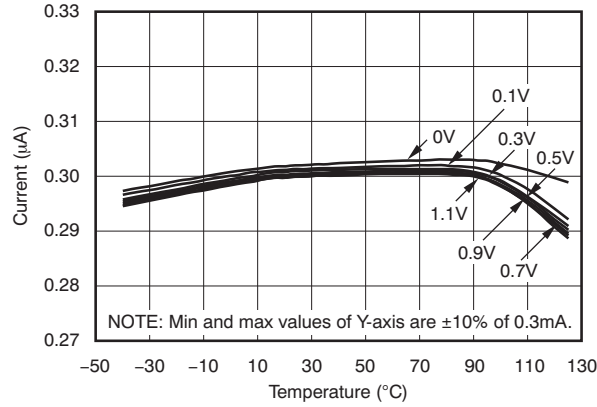

Figure 23.
- (1) Toggling WDI for a period less than t_{WDT} negatively affects I_{VCC} .
- (2) These specifications are beyond the recommended V_{VCC} range, and only define $\overline{\text{RESETn}}$ or RESETn output performance during VCC ramp up.
- (3) The lowest supply voltage (V_{VCC}) at which $\overline{\text{RESETn}}$ or RESETn becomes active; $t_{\text{RISE}}(\text{VCC}) \geq 15\mu\text{s/V}$.
- (4) CTn (where $n = 1, 2, 3$, or 4) are constant current charging sources working from a range of 0V to $V_{\text{TH(CTn)}}$, and the device is tested at $V_{\text{CTn}} = 0.5\text{V}$. For I_{CT} performance between 0V and $V_{\text{TH(CTn)}}$, see Figure 23.